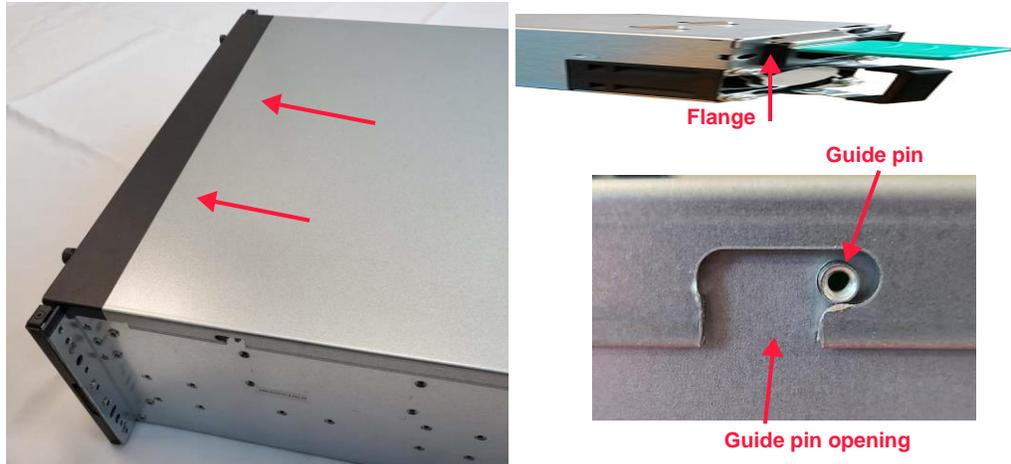

Figure 6.5 Top cover removal
2. Use both hands to apply a gentle downward pressure on the top cover, and then slide the cover forward enough to clear the flange at the rear of the enclosure. Aligning the six guide pins (three on each side of the chassis) with the six guide pin openings (three on each side of the cover). Refer to the examples presented in Figure 6.5.